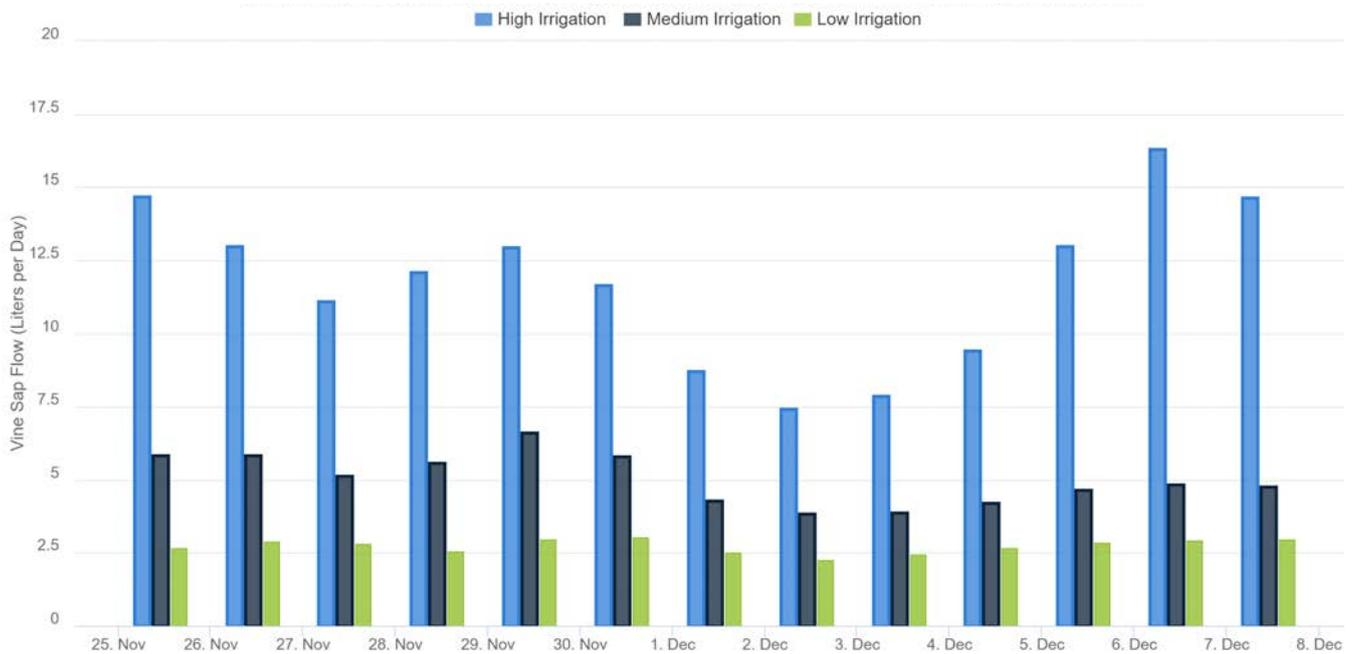

*Figure 1. A SapLinX Sap Flow Sensor installed on the trunk of a pear tree.*
**The SapLinX Sap Flow Sensor (Figure 1)** provides an indication of your tree's daily water use. SapLinX records an estimate of the tree's hourly sap flow which can then easily be converted into an estimate of water use per day, per week, per acre, etc.